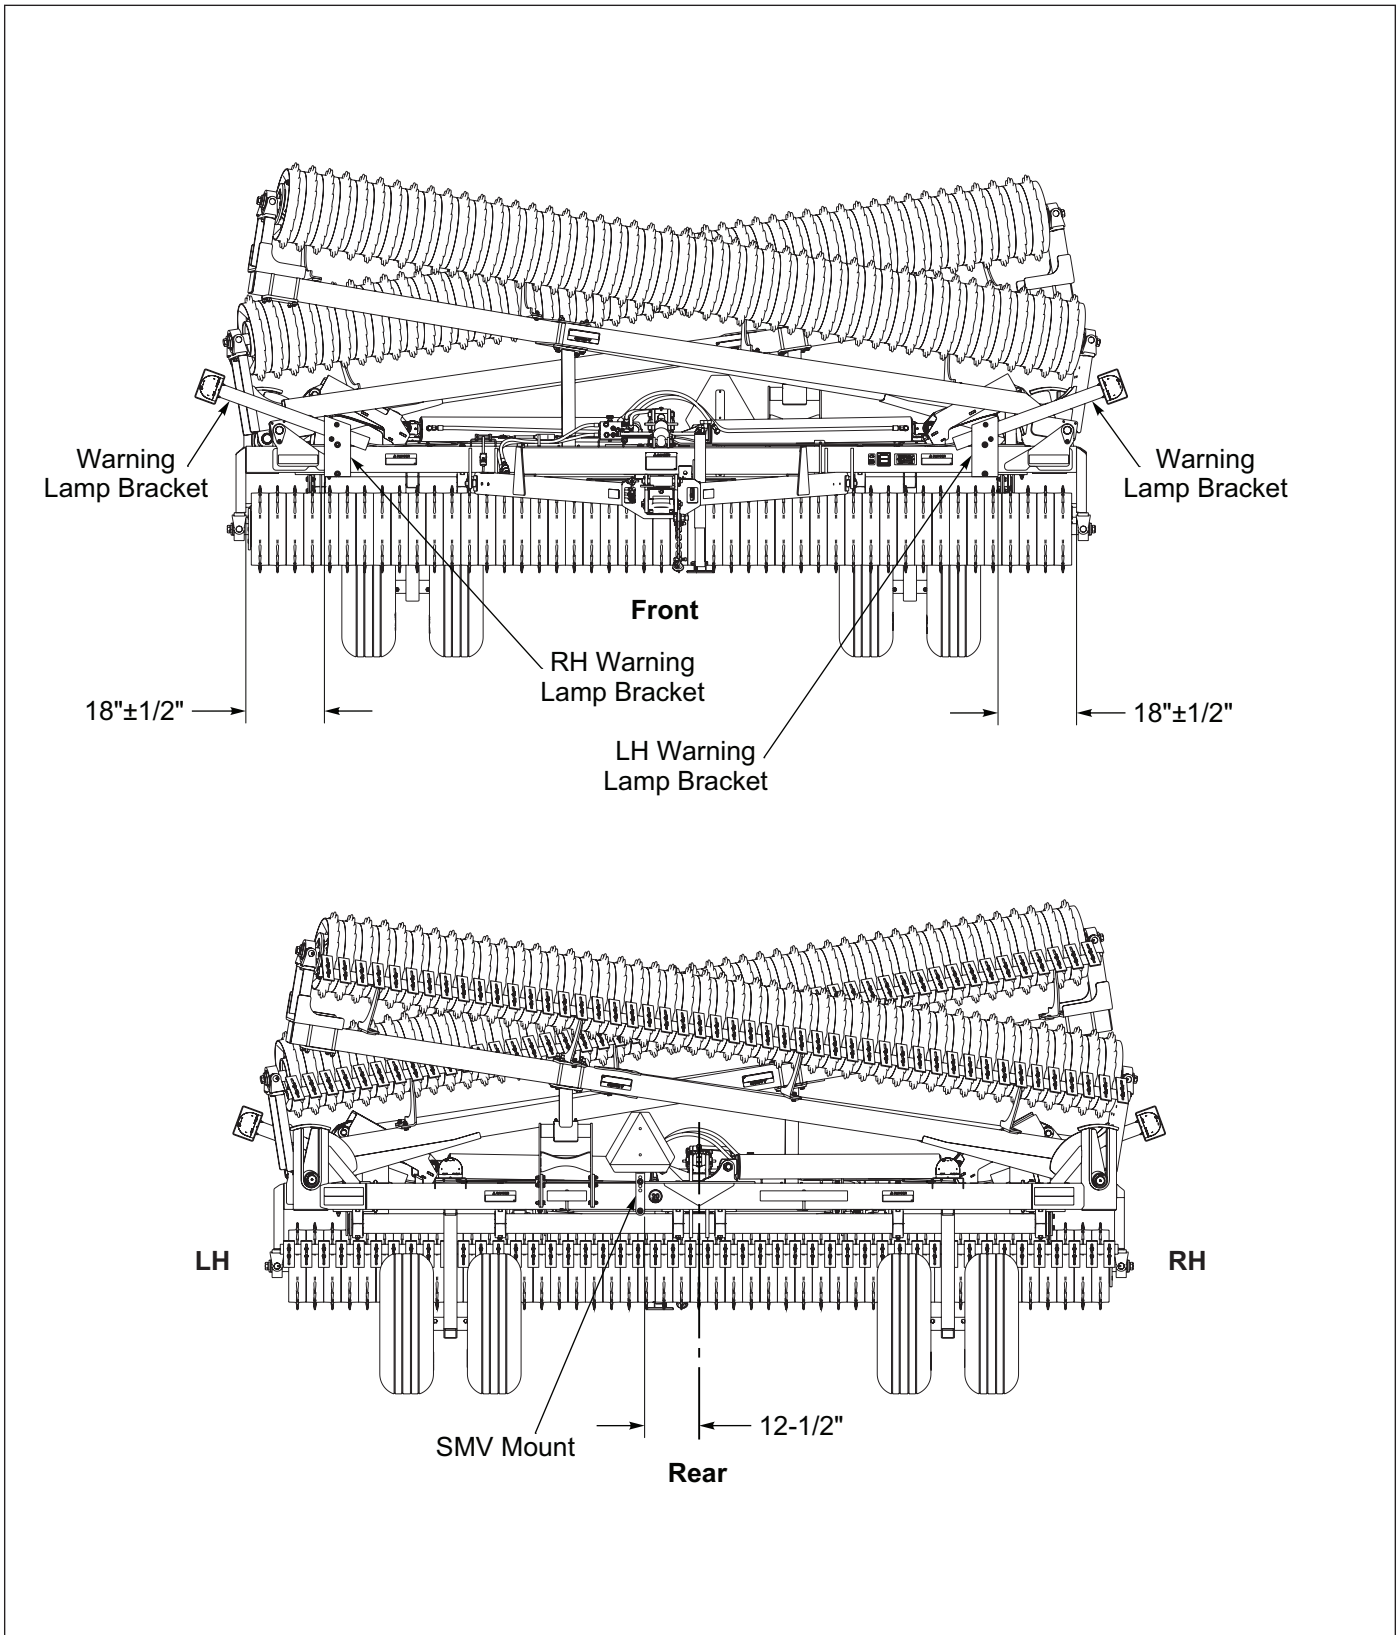

Figure 2-23: WFP38-46 Warning Lamp Bracket Dimensions
2. Attach the LH and RH Warning Lamp Brackets to the front of the front frame tube approximately 18" from the inside of the bearing hangers with 5/8-11 U-Bolts and Flange Locknuts and tighten. **See Figure 2-23 or 2-24.**
1. Attach the SMV Mount to the frame tube 12-1/2" left of center with 5/8-11 U-Bolts, Flat Washers and Locknuts. **See Figures 2-23 or 2-24.**